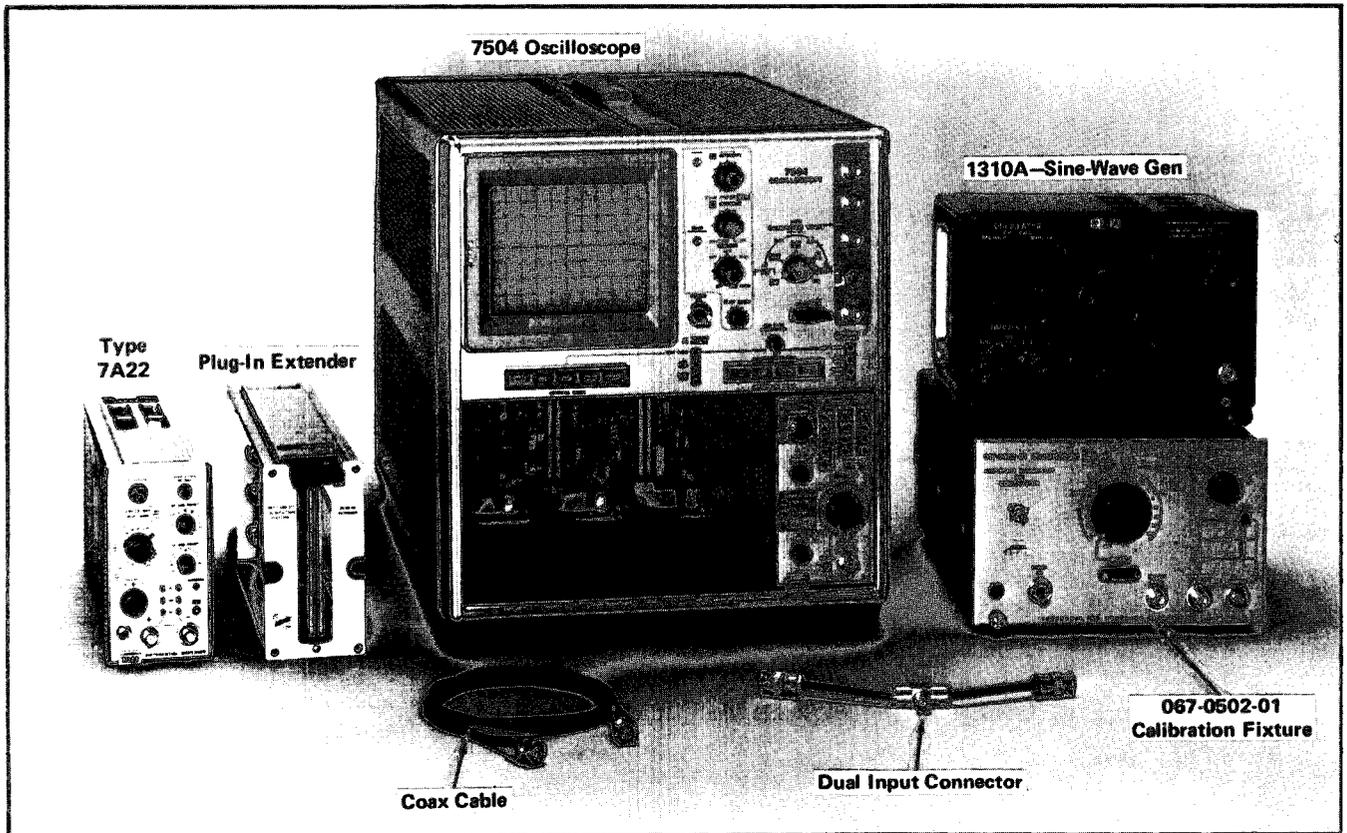

Fig. 5-7. Equipment required for steps 20 through 24.
- a. Test equipment setup is shown in Fig. 5-7.